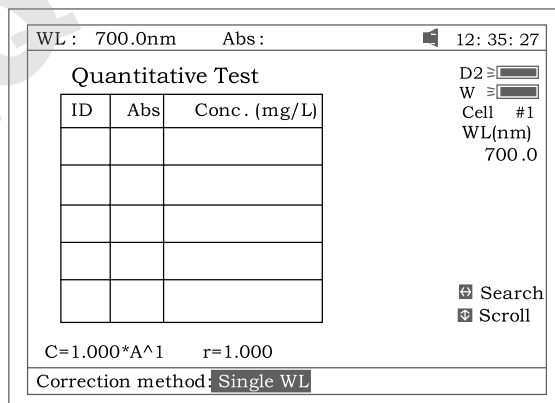

Fig 27
- 2 Press **【GOTO λ】** to select correction methods and enter the wavelength. There are three correction methods (single WL, Iso-absorbance and 3 point, Fig 27) .